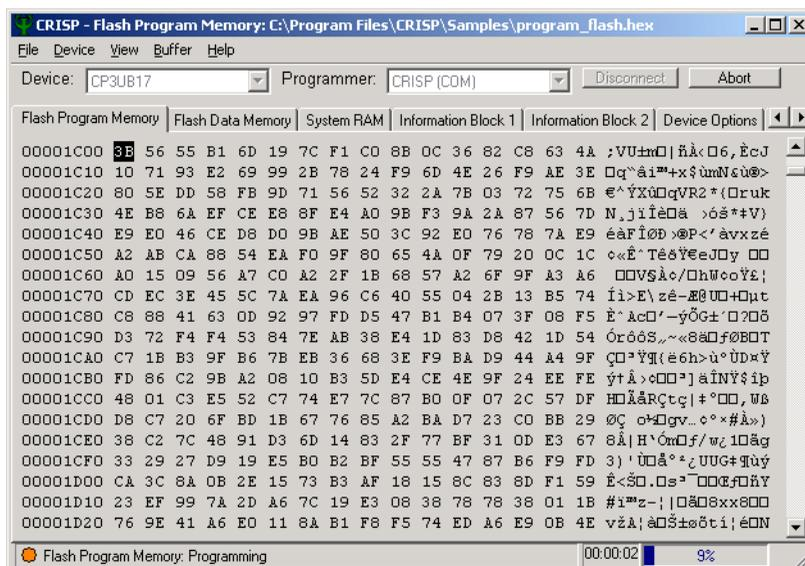

Figure 5-10. CRISP Status Bar During Programming
- Monitor CRISP Status.** During this process, the status bar should look as shown in Figure 5-10.